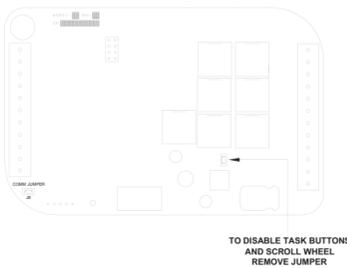

Figure 15 – Local Control Jumper
- Remove the local control jumper - See Figure 15.